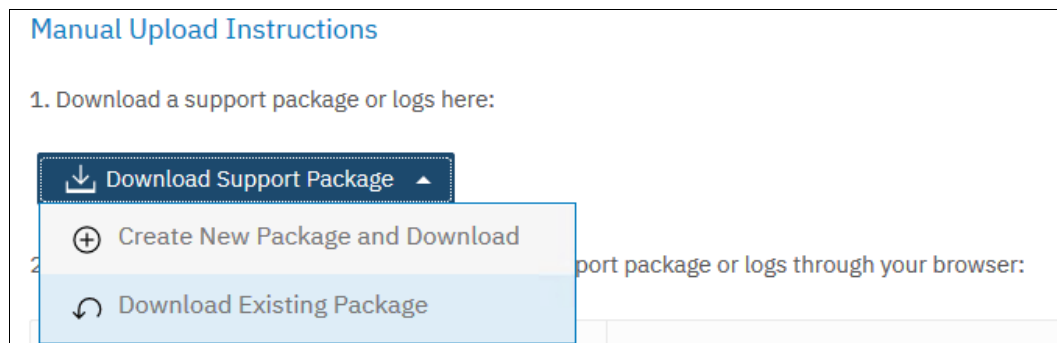

Figure 7-11 Download Existing Package
2. On the Manual Upload Instruction section, select **Download Support Package** and select **Download Existing Package**, as shown in Figure 7-11.